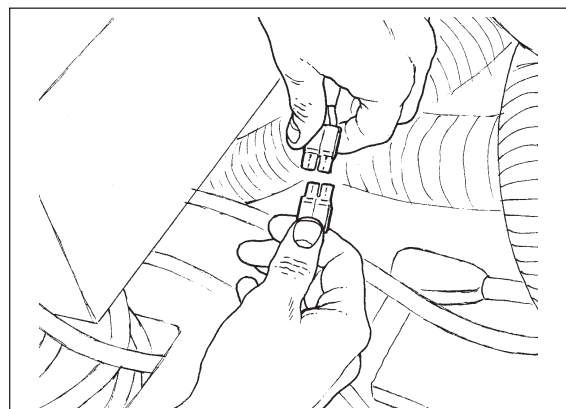

Figure 9
5. Disconnect the blue electrical float connector (See Figure 9).
15. Reconnect the blue float connector (See figure 9, page 12).